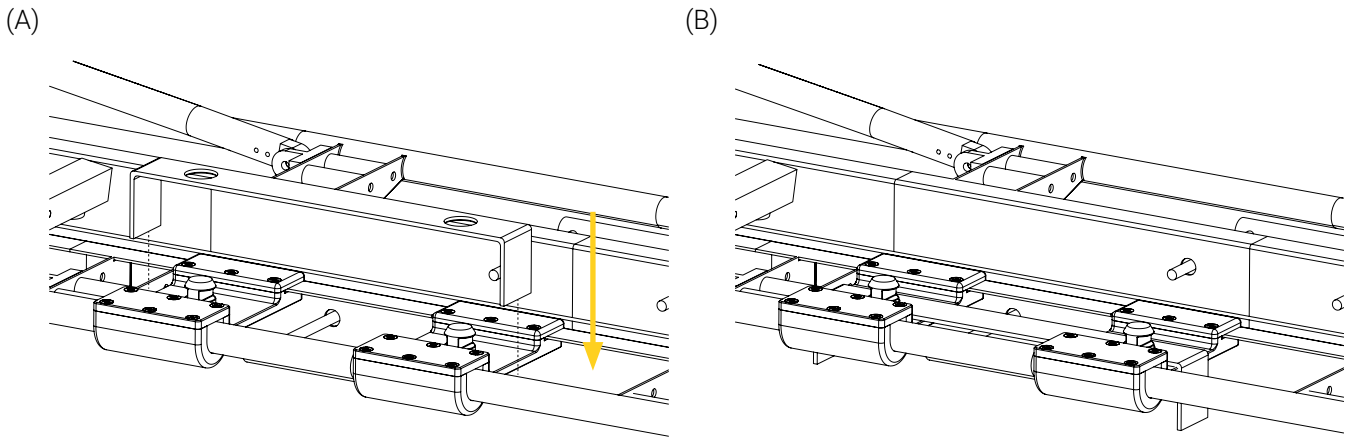

Figure 19: Installing the assembly jig
5. Place the assembly jig over the clamp blocks (Figure 19).